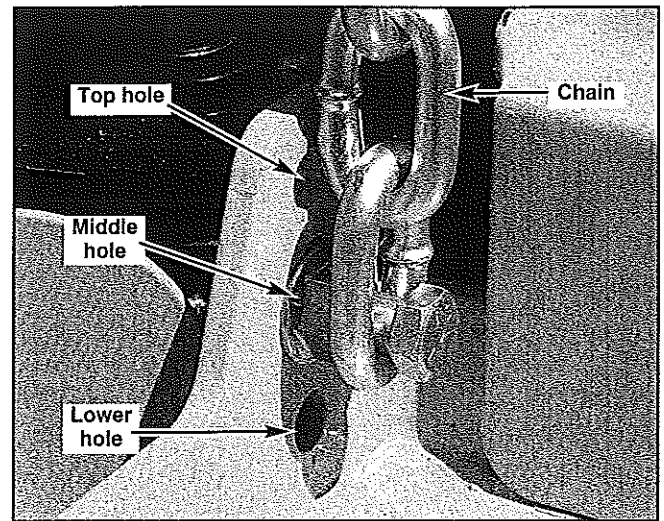

Figure 3-14
There are three (3) holes in each of the four (4) deck chain brackets that are also used for height adjustment. Fig. 3-14